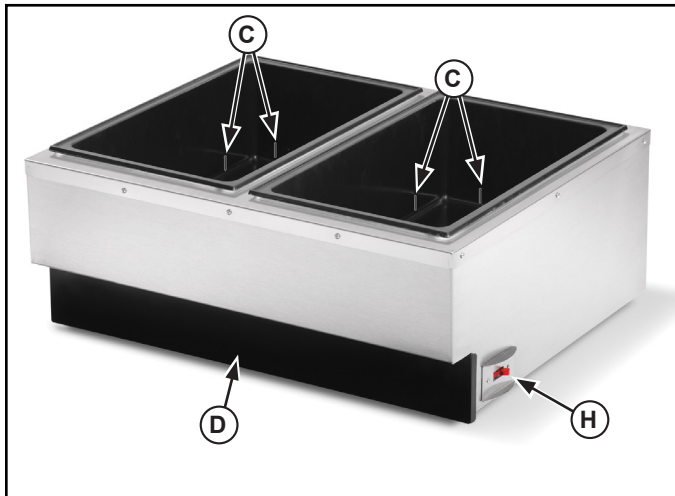

Figure 2. Features and Controls
2. Fill the well(s) to the correct level marks (C) with clean fresh water. The correct level is about 1" (2.5 CM) or approximately 5.5 quarts (5.2 L) of water. Do not over fill. See Figure 2.
4. Preheat the water in the wells by covering wells with empty food containers or covers. Open the access door (D). Turn the ON/OFF and heat control switch (A) to the ON position and set the heat control to the maximum heat setting (10). See Figures 2 and 3. Preheat for 15 minutes.